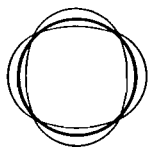

Fig. 39.15. Vibration of a bell.
*Vibrating Plates and Membranes.* Gongs and cymbals are vibrating plates. The pitch of the sound emitted depends on the area and thickness of the plate. A bell vibrates in quarters; thus the edge of the bell takes elliptical shapes which are alternately at right angles to each other. (See Fig. 39.15.) Vibrating membranes are found on tambourines and drums; a tambourine has only one membrane, but a drum has two with an enclosed volume of air between. The top membrane is set in vibration and the energy is transferred to the lower membrane by the intervening air. The kettle drum is the only drum which has a variable tone. It must be tuned to the key in which the orchestra is playing. The tuning is done by means of setscrews around the "head" of the instrument.